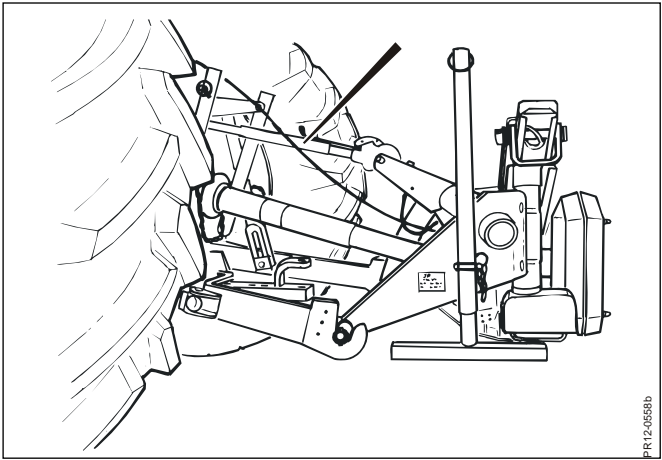

Fig. 3-9
- Fig. 3-9:** The cutting height can be adjusted by the upper link.